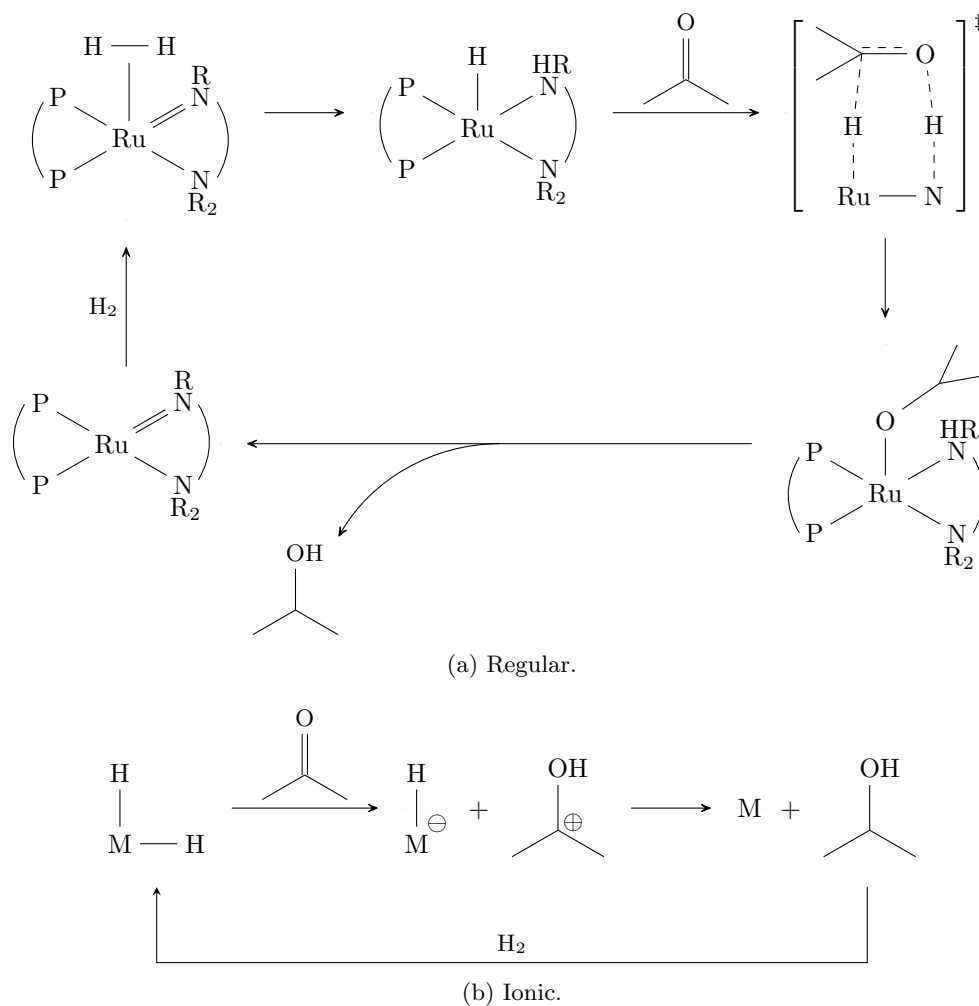

Figure 4.3: Noyori's catalyst mechanism.
- Noyori's bifunctional catalysis (heavily related to Figure 4.3).